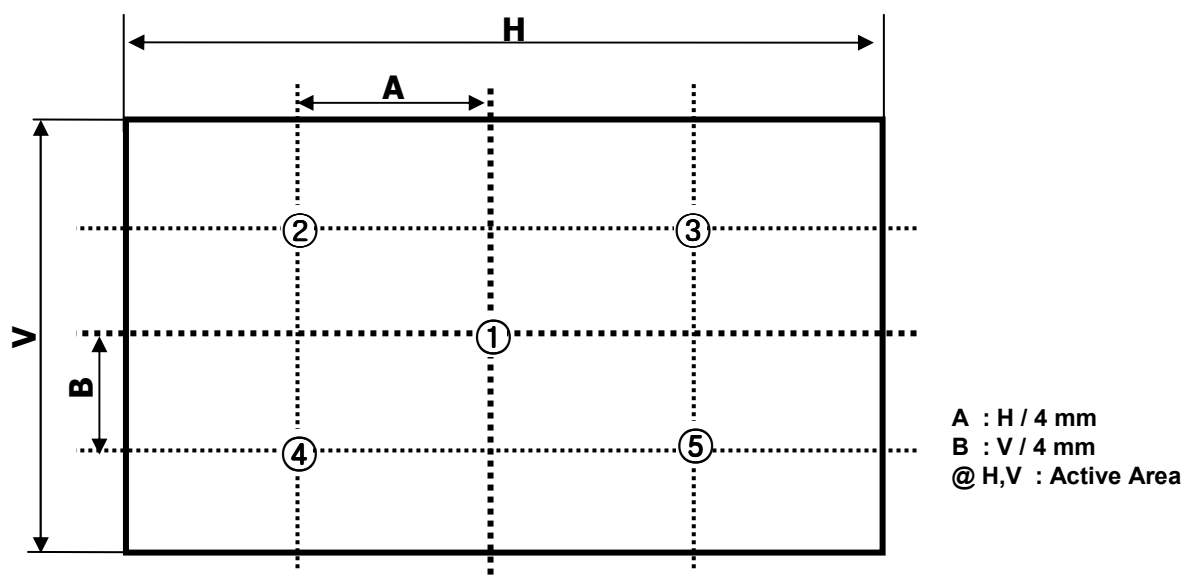

FIG.2 Measure Point for Luminance
2. Surface luminance are determined after the unit has been 'ON' and 1 Hour after lighting the backlight in a dark environment at $25 \pm 2^\circ\text{C}$. Surface luminance is the luminance value at center 1-point across the LCD surface 50cm from the surface with all pixels displaying white. For more information see the FIG. 2.
For more information, see the FIG. 2.